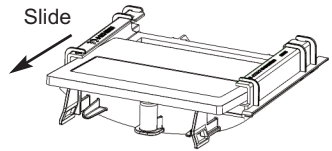

Figure 7
2. Pull up on bottom edge of filter and slide out of the bottom of the filter holder (see Figure 7)